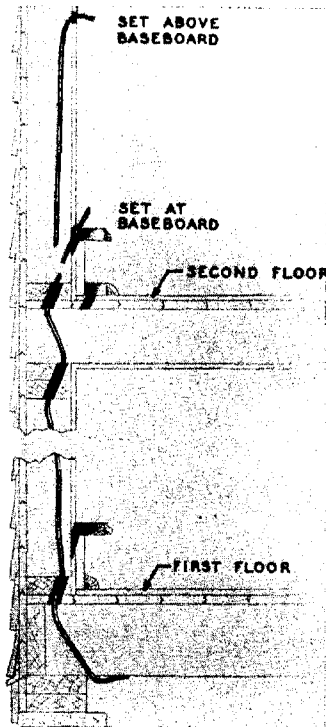

Fig. 3 – Fishing Outside Walls
- Fig. 3 shows a method of fishing walls.